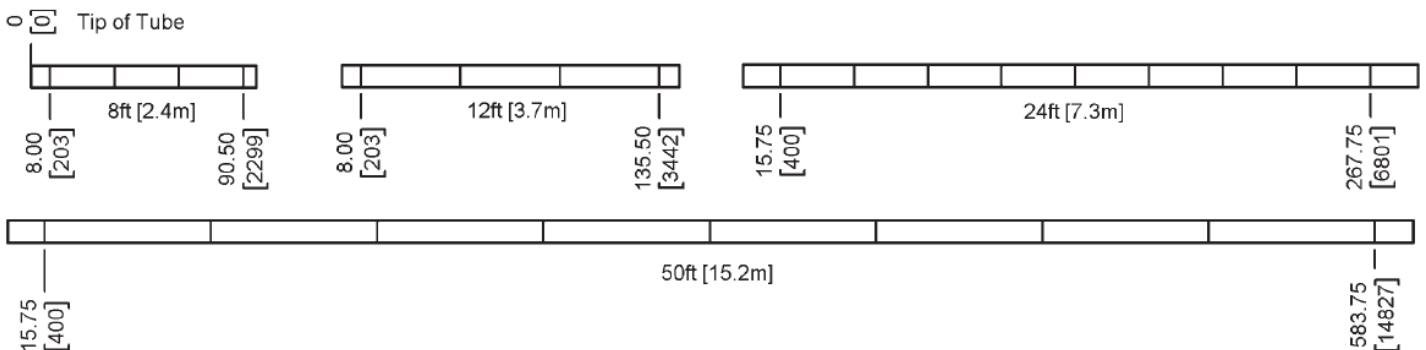

Figure 5: Thermistor Sensor Element Location in Probes
1. Place the sensor in the middle or top of the duct as shown in Figs 5 and 6 and drill the probe and mounting holes as depicted for the enclosure being used.
3. Mount the enclosure to the duct using recommended 5/16" self-tapping, self-drilling sheet metal screws through a minimum of two opposing mounting tabs. A 1/8" pilot screw hole in the duct makes mounting easier through the mounting tabs. Use the enclosure tabs to mark the pilot hole locations. Weatherproof (WP) enclosures require assembly of the mounting tabs on opposite corners.